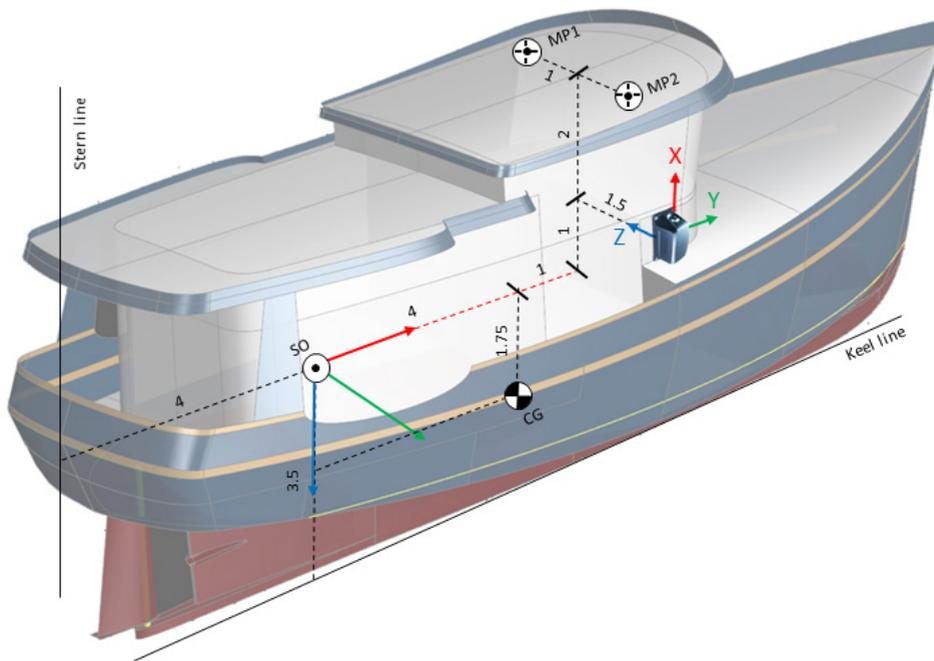
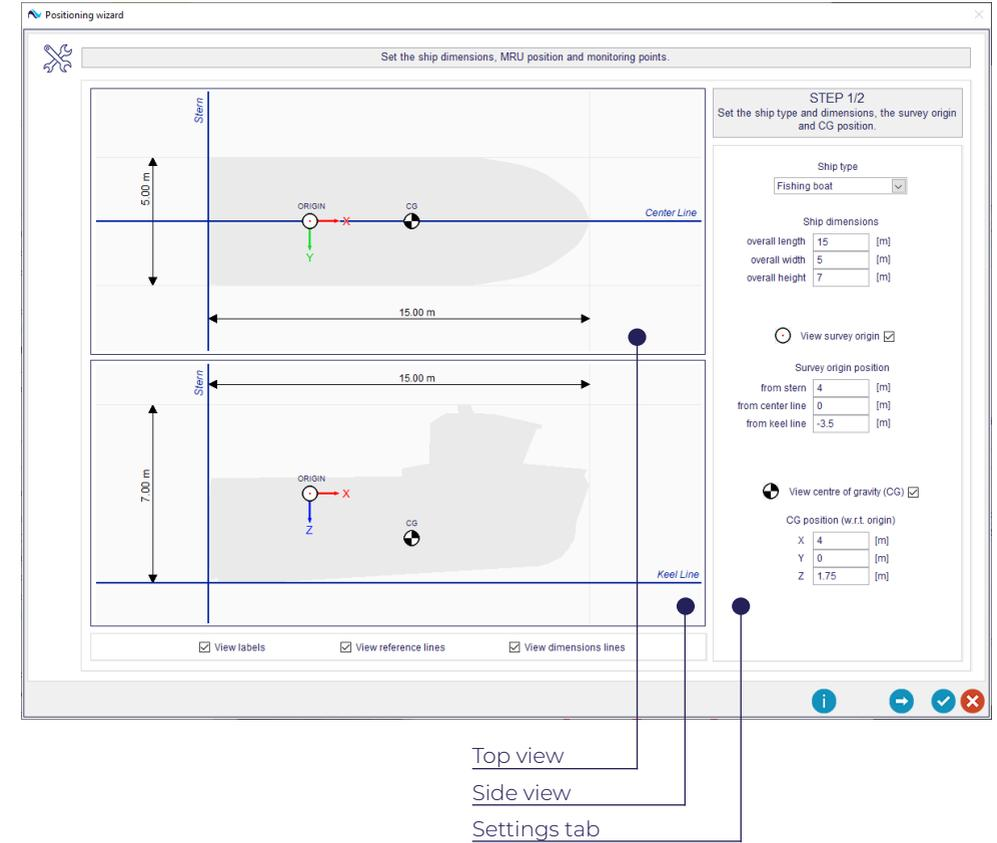
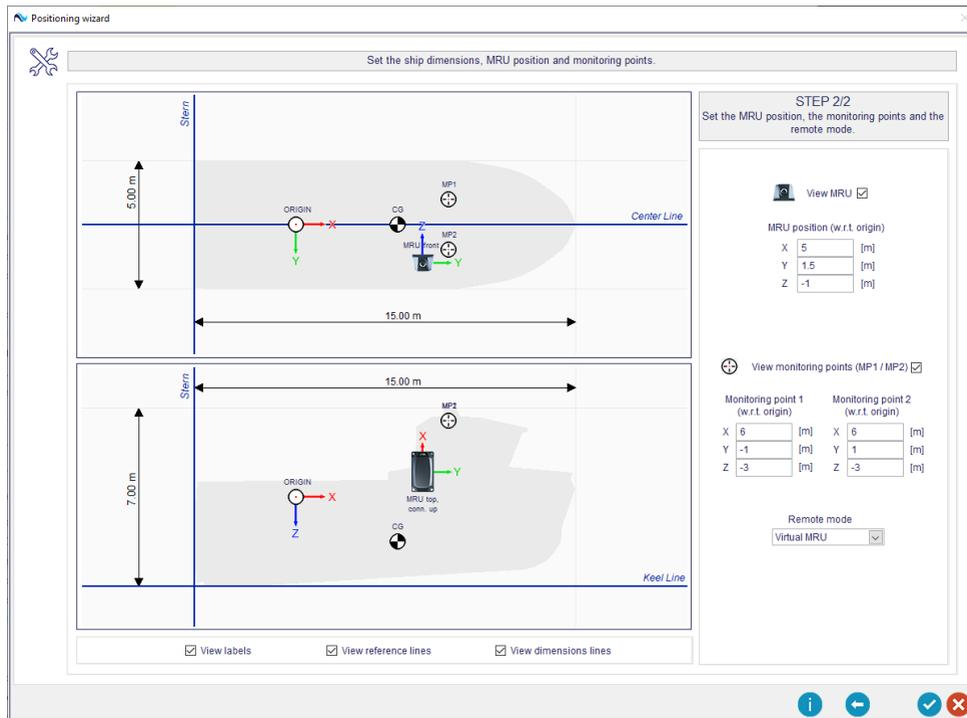

Figure 38 - Installation of the MRU on a vessel.
Figure 39 - Position wizard: STEP 1.
Figure 40 - Position wizard: STEP 2.
In Figure 38, the SO is placed at -3.5 m from the keel line and 4 m from the stern line. The CG is placed at $[x, y, z] = [4, 0, 1.75]m$ from the SO (see Figure 38). This is defined in the interface as illustrated in Figure 39.
In STEP 2 of the *Position wizard*, see Figure 40, set the *MRU position* and the *Monitoring point 1* and *Monitoring point 2* positions relative to the *Survey origin position (SO)*. For the example in Figure 38, the coordinates for the MRU and two monitoring points are: